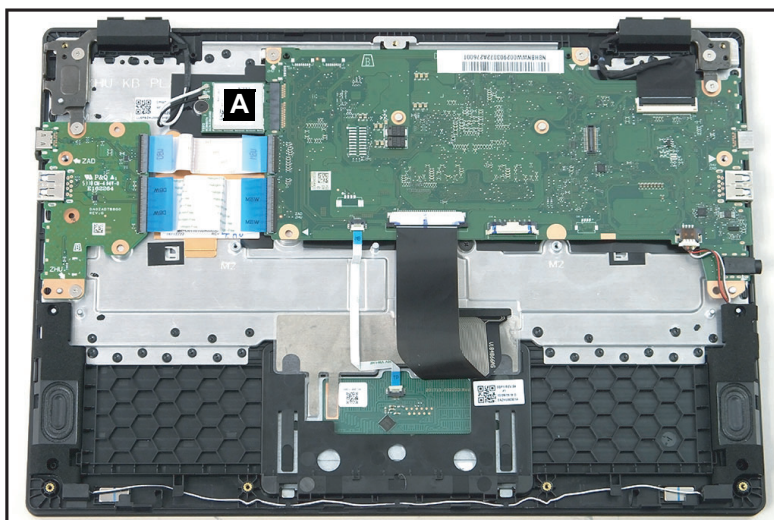

Figure 1-15. WLAN Module Location
1. Find the WLAN module (A) on the top assembly (Figure 1-15).